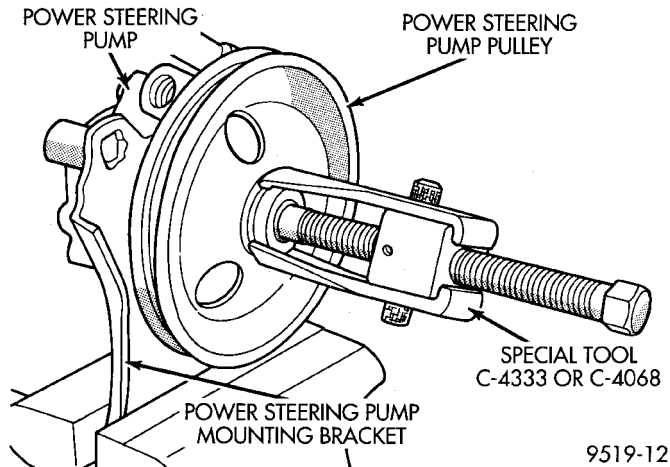

Fig. 39 Pulley Removal From Power Steering Pump Shaft
(2) Mount the power steering pump in a vise using the power steering pump mounting bracket (Fig. 39). Mount Puller, Special Tool C-4333 or C-4068 on power steering pump pulley (Fig. 39). Remove the power steering pump pulley from the power steering pump shaft.